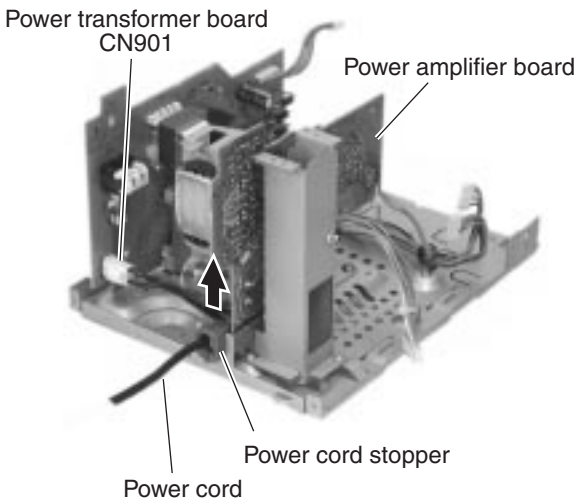

Fig.30
■ **Removing the power transformer assembly** (See Fig.30,31)